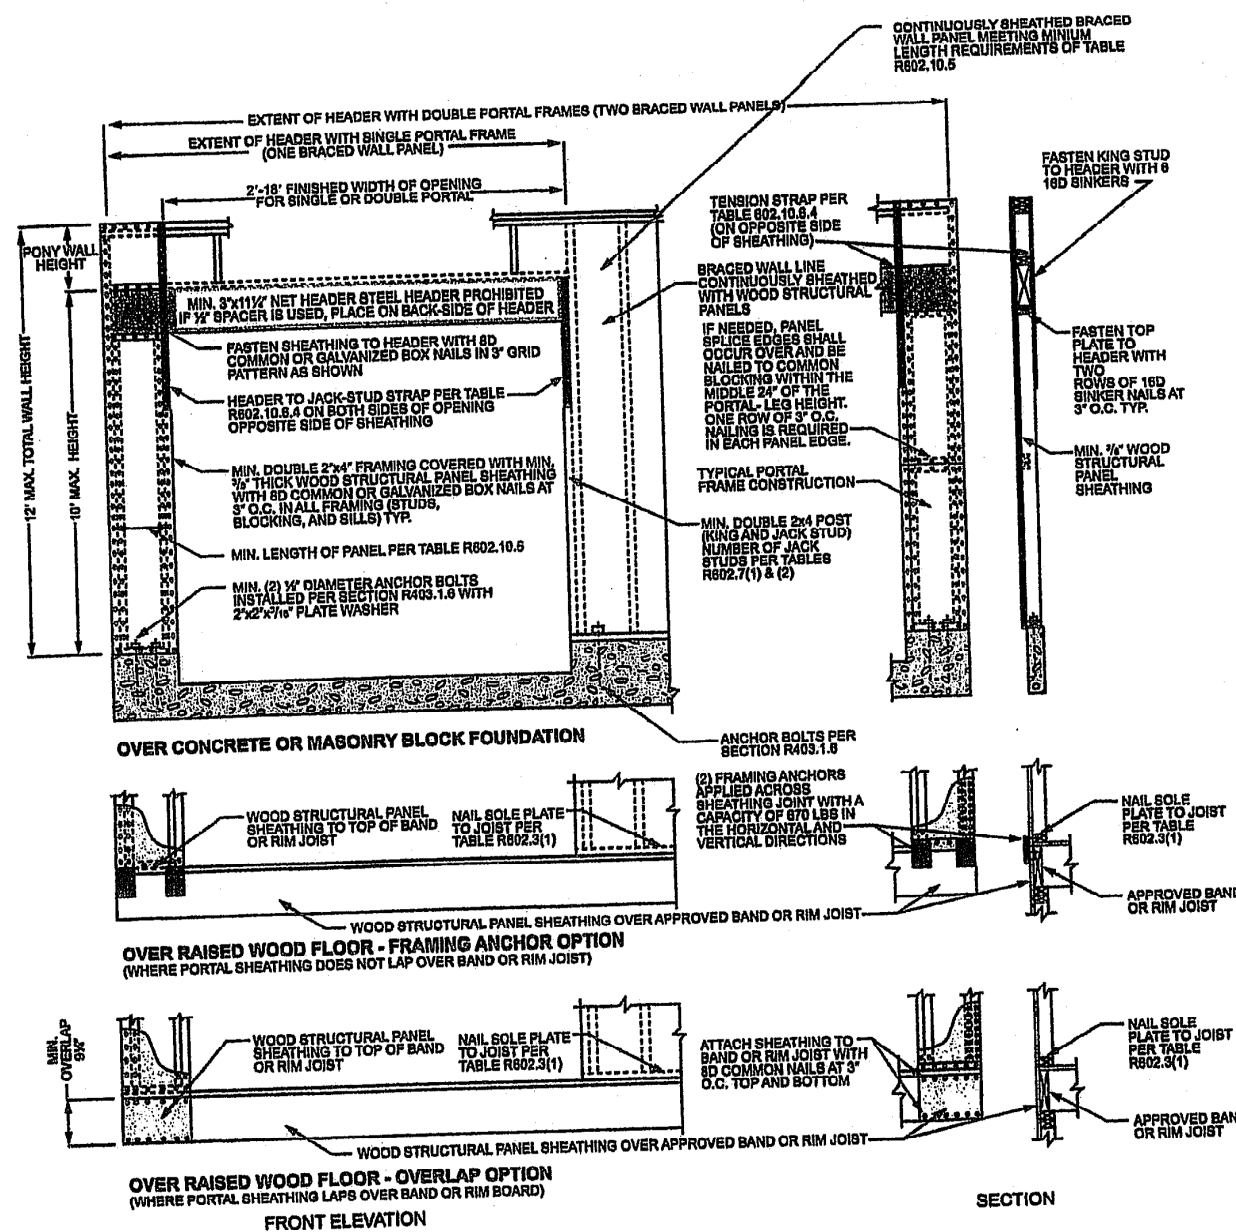

FIGURE R602.10.6.4
d. Maximum header height for CS-PF is 10 feet in accordance with Figure R602.10.6.3, but wall height shall be permitted to be increased to 12 feet with pony wall.
e. Maximum header height for CS-PF is 10 feet in accordance with Figure R602.10.6.4, but wall height shall be permitted to be increased to 12 feet with pony wall.